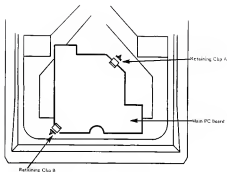

Figure 7-7. Main PC Board
To remove the main PC Board: (See Figure 7-7)
- Position the board as shown in Figure 7-7. Be sure that the holes in the board are aligned with the three holding tabs in the bottom cover.